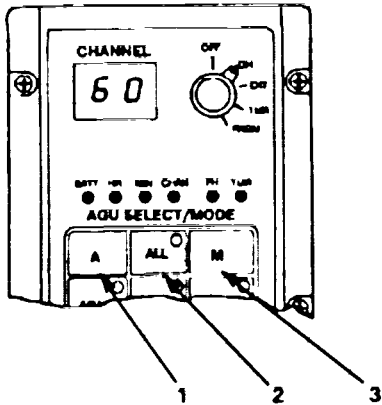

Figure 2-4. T/C AGU Select/Mode Switches
b. .AGU Select/MODE Switches. (See Figure 2-4.)
(1) A (Automatic) Switch. Selects auto homing. Auto homing will be selected for all AGUs on the same channel by pressing the ALL switch. Alternately, any number of AGUs up to six may be individually commanded to auto home. The selected AGUs will be continuously illuminated green, indicating auto homing. Only AGU numbers that have been preprogrammed will accept command(s).
(2) ALL. Switch. Used in combination with the A switch or M switch to select auto homing or manual homing for all AGUs on the same channel.
(3) M (Manual) Switches. Switches the transmission from auto mode to manual mode. Manual may be combined with the ALL switch, in which case all AGUs will follow the same manual commands. In this mode, the ALL switch light will be red and flashing. The most common method, however, is to command one specific AGU for manual control. This is accomplished by pressing the specific AGLI switch, followed by the M switch. The flashing red light will confirm that the particular AGU is in the manual mode.